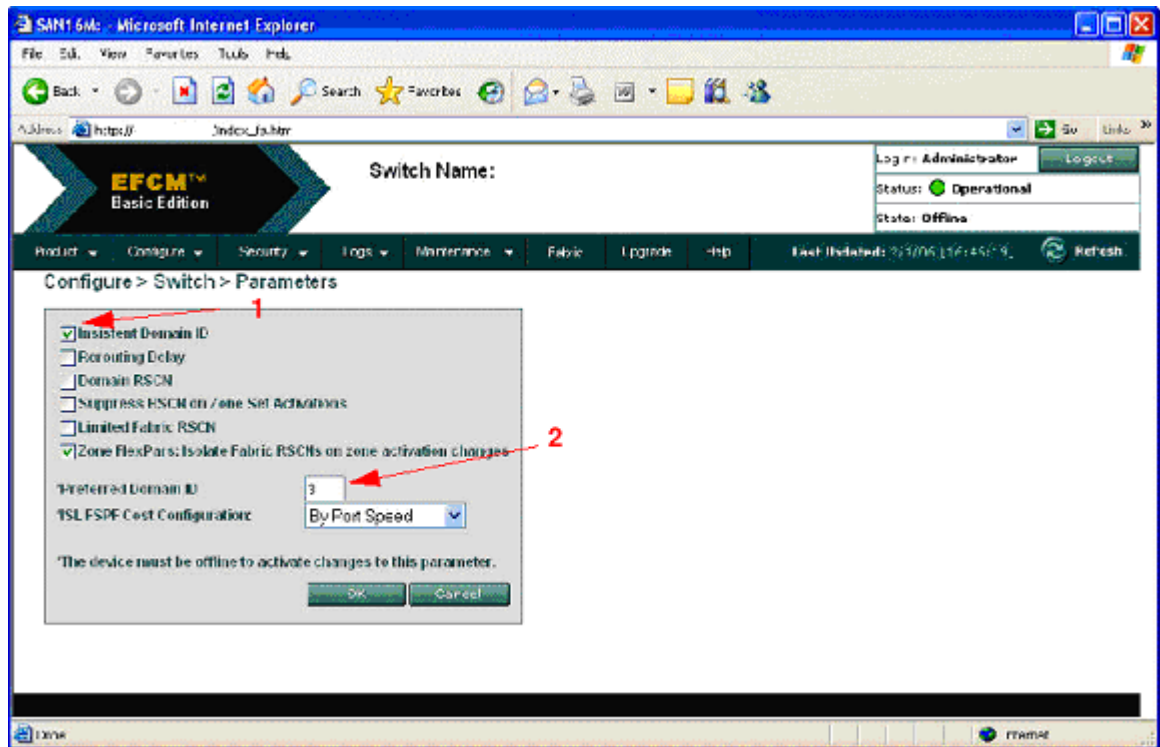

Figure 22: Domain ID Settings
4. From the Configure → Switch → Parameters settings window (Figure 22), select Insistent Domain ID (1). Next, define a unique ID ranging between 1 and 31 (2). In our example, we use Domain ID 3. Click OK.
Brocade Access Gateway technology is the application of NPIV to an embedded Fibre Channel switch in an open systems blade server environment. Blade server switches almost always connect to an external switch. By applying NPIV to an embedded blade server switch, the external ports appear to another switch that supports NPIV to be N\_Ports, as if they were server HBAs. These external ports and the internal ports that connect to the blade servers are still switched in the same way as a traditional Fibre Channel switch. But an embedded switch configured as an Access Gateway device does not have external E\_Ports for uplink to another switch—instead the Access Gateway device has N\_Ports for uplinks. Figure 22 displays the interconnectivity between the embedded switch and the Edge Switch.(This is a new feature - no ISL is required and this will not be covered in this paper).